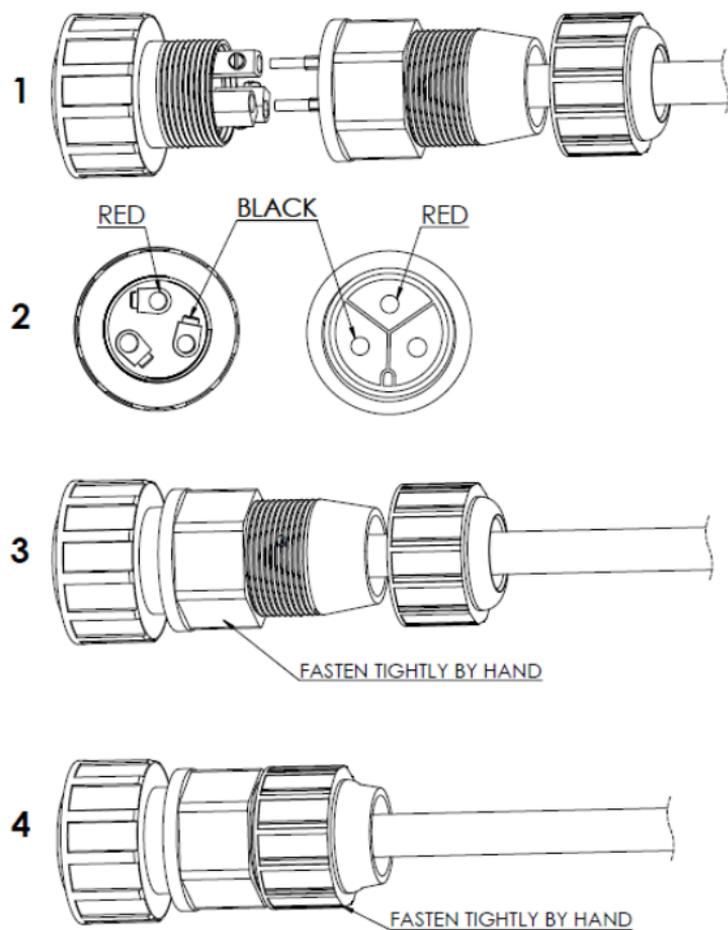

Figure 5
Step 7: Connect the PoE midspan input connector to a minimum 4 Amps rated input cable, ensure assembly of the inlet connector is as shown in figure 5.
- The power connector supplied with the PoE Midspan has 3 terminals; '+' (POS), '-' (NEG), and one which is not connected (See Figure5).
- Assemble the inlet connector as shown at Figure 5